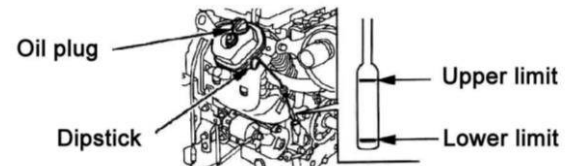

Fig. 7
- 2) Remove the dipstick (Fig.7) and clean it.